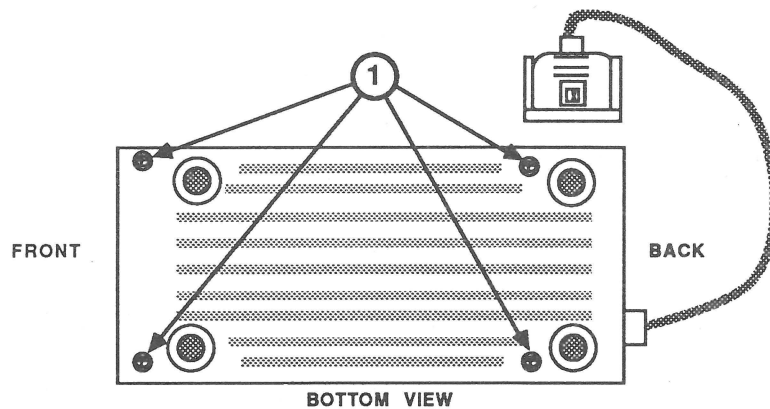

FIGURE 1
1. Remove the four screws (see Figure 1, #1).
3. Position the bottom cover and replace the four screws (see Figure 1, #1).